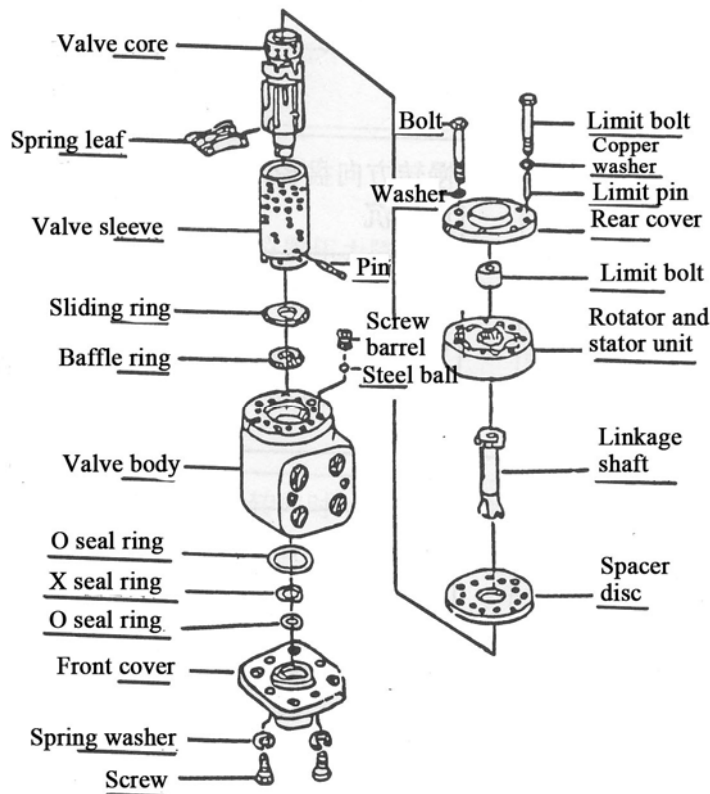

Fig 6.5 Diagram for Removal and Assembly of Redirector
(5) Removal and assembly (see Fig 6.5)